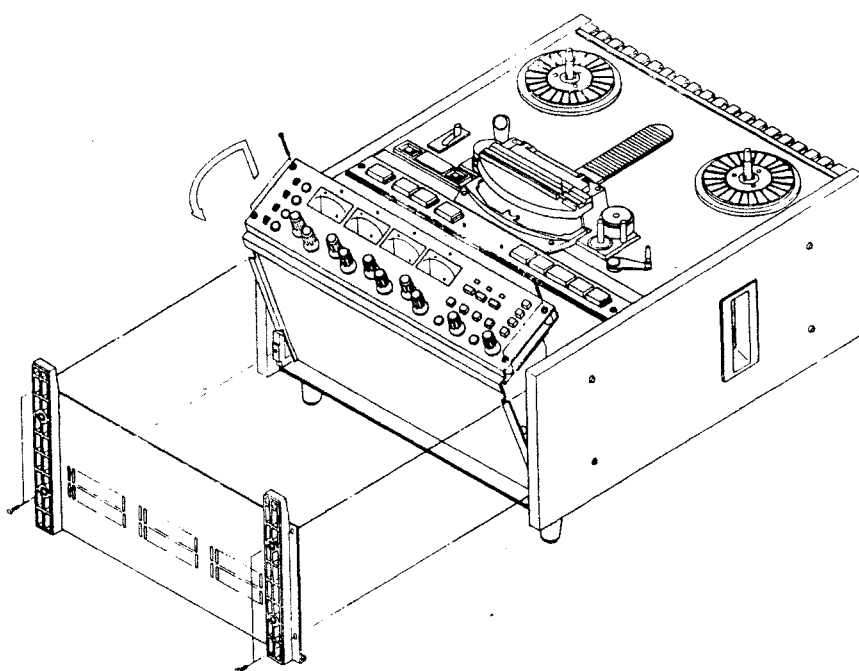

Figure 7-3 Electronics Access
2. Remove the bottom cover by removing the four screws on the cover as shown in Fig. 7-3, remove the four screws on the electronics front panel, as shown in Figure 7- 3 •